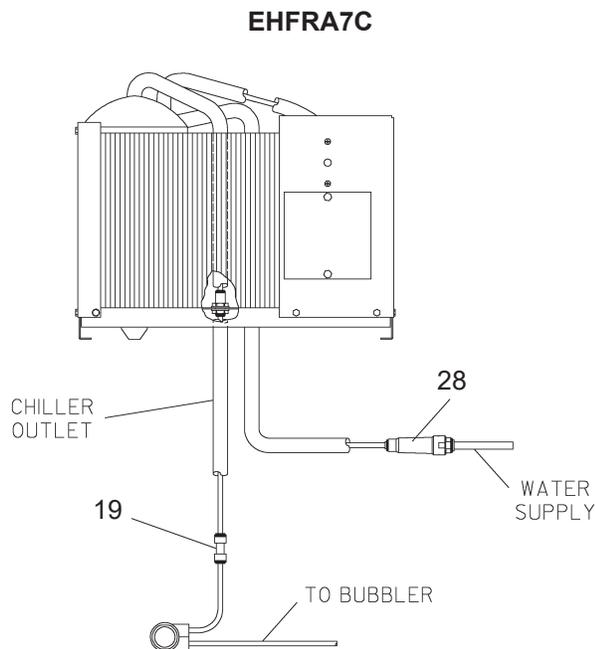

FIG. 2
5. **Connect** water outlet tube on refrigeration package to water in tube on regulator holder (Item 1) with tubing and fitting provided. (See Fig. 2)